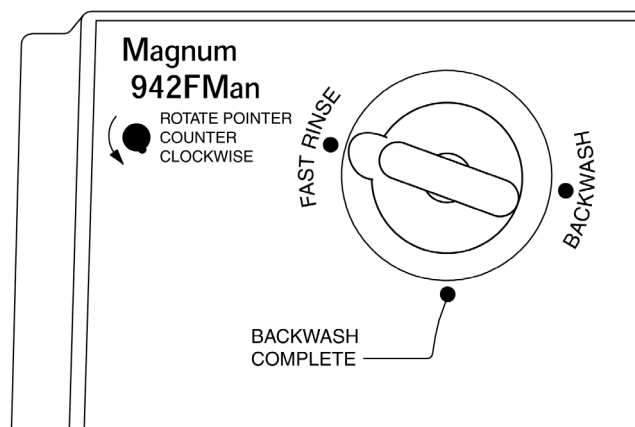

Figure 5.7
2. When the backwash is finished, move the indicator knob COUNTERCLOCKWISE to the center of the **Fast Rinse** position (Figure 5.7). The knob should remain in the **Fast Rinse** position for 5 to 20 minutes*, or until the water runs clear at the drain.